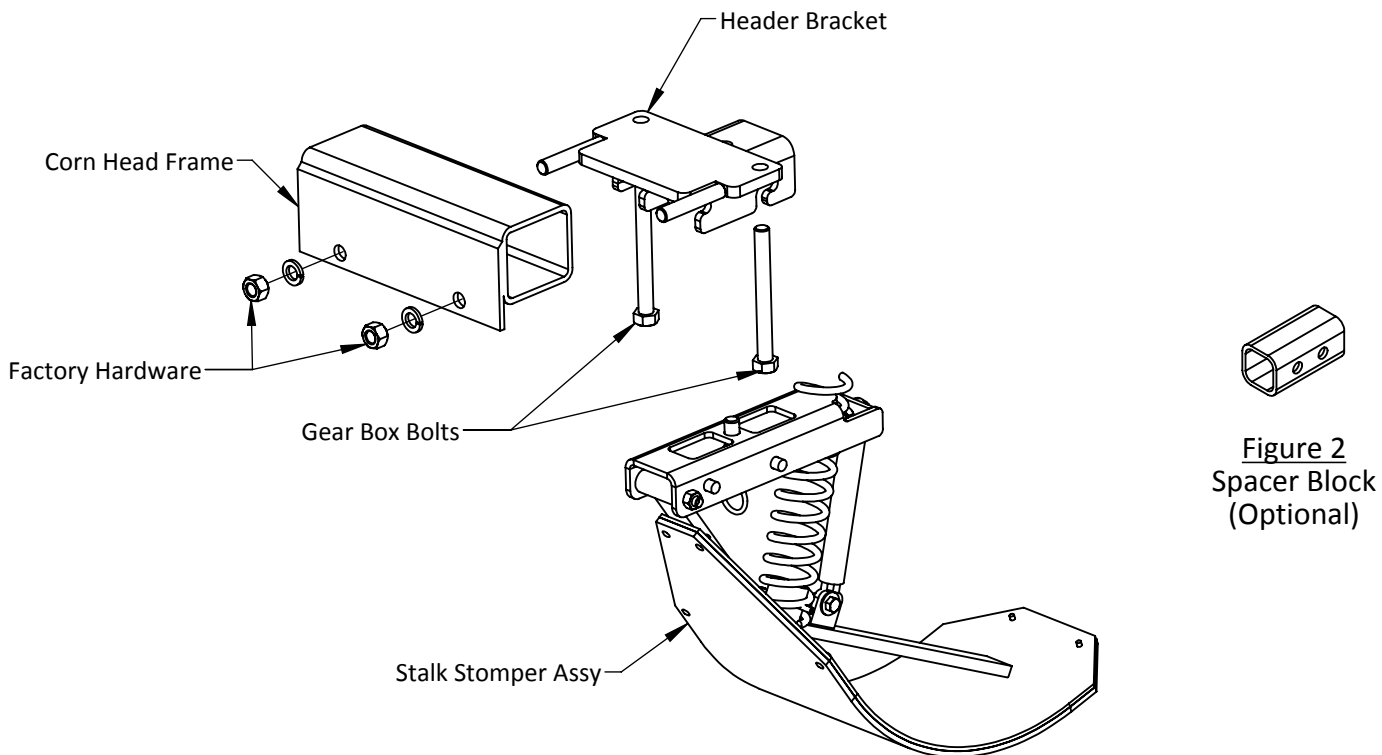

Figure 1
- Remove the gear box bolts and the eye bolts which secure the row unit to the main frame of the corn head. Replace the eyebolts with Header Bracket (43009) by inserting the threaded rods thru the lower frame mount. Insert the gear box bolts thru the header bracket into the gearbox and tighten to factory recommended torque specifications. Secure the threaded rods reusing the factory hardware and tighten to factory recommended torque specifications (Fig. 1).